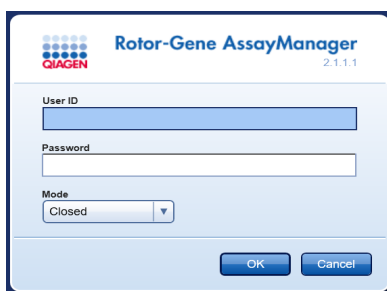

Figure 7. Rotor-Gene AssayManager login screen.
6. At the Rotor-Gene AssayManager login screen (Figure 7), enter the user ID and password, select **Closed** mode, and click **OK**. The main Rotor-Gene AssayManager window will then open.